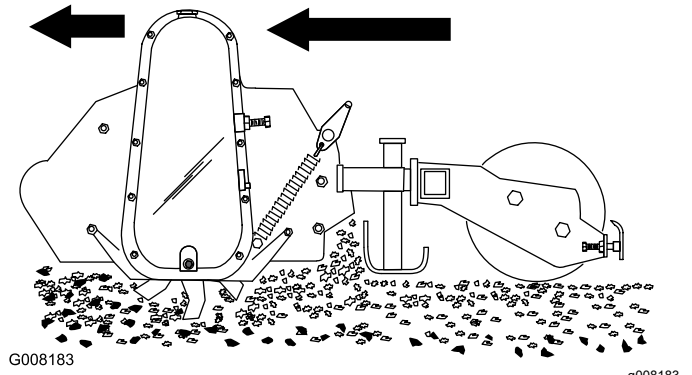

Figure 9
1. Lower the cultivator to the ground and ensure that the chain case is perpendicular to the ground (Figure 9).